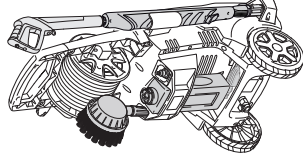

Fig. 42
6. Store the accessories on the back and in the storage compartment of the product (Fig. 42).